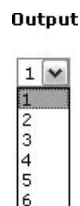

Figure 6-16 — Output selection drop box
1. To select an individual output to mute or unmute, click the Output drop box. A drop-down box appears (figure 6-16).